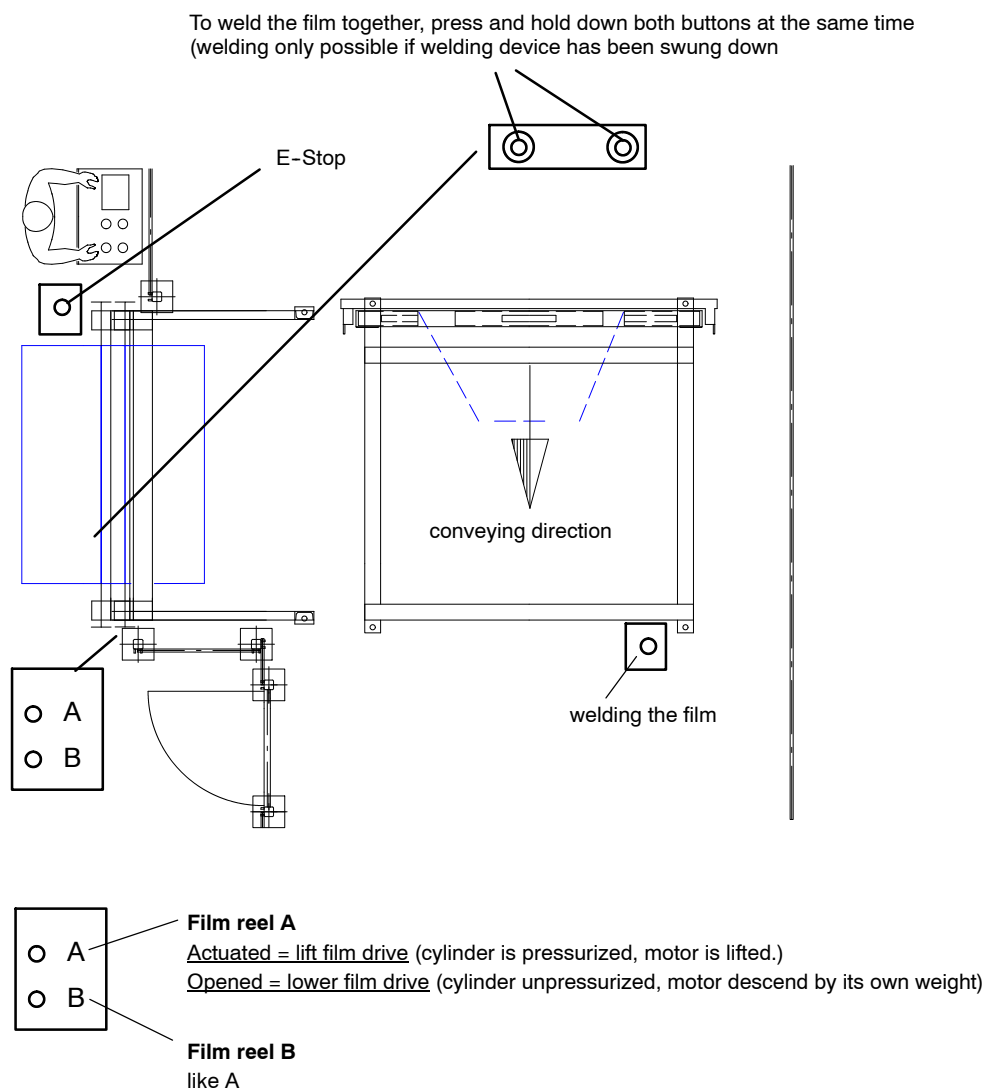

Figure 24 Operator control elements at the MSK Flowtech
6. The operator must now press both knobs (simultaneously) on the frame of the unwinding stand (see Figure 24) and thus welding the films together. Before the welding device can be opened again, the excess film length (of the two open, cut off film ends) must be removed. Re-open the welding device.